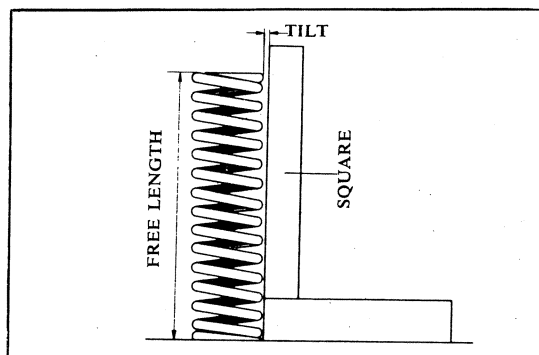

Fig. 132 Spring free length measurement
1) Front fork spring. (Fig. 132)